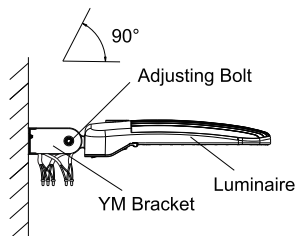

Figure 16
Step 3: Connect the fixture to the bracket and tighten the screws; connect the wires properly and put them into junction box. (Figure 16)
Notice: Adjustable angle is 0-90° (Figure 16)